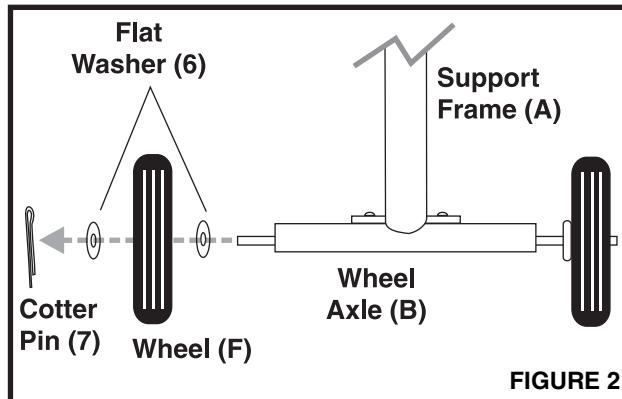

FIGURE 2
3 Attach the Wheels (F) to the Wheel Axle (B) using the 1 x 1-3/4" Flat Washer (6), Wheel (F) and 2" Cotter Pin (7) as shown in Figure 2. Repeat the process for the second wheel.